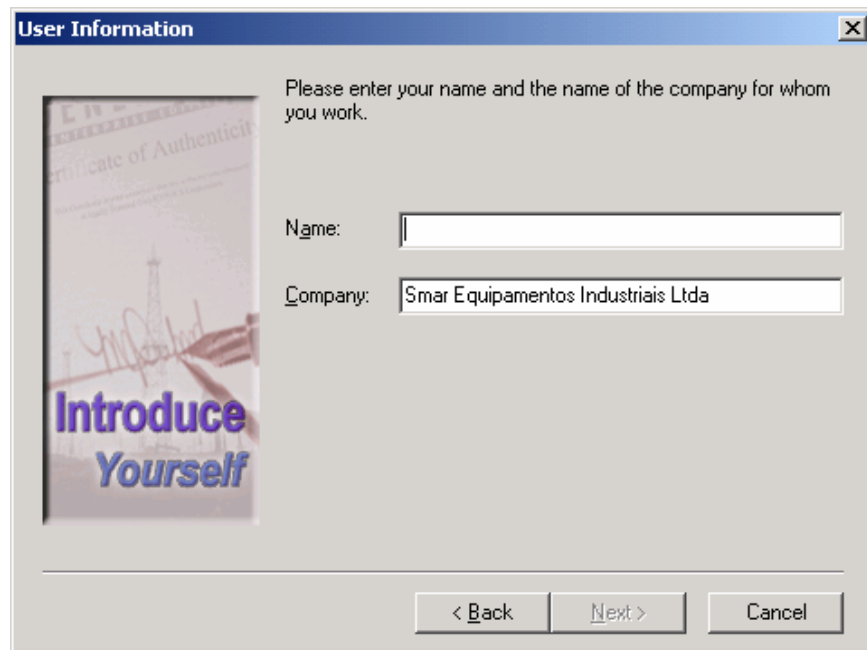

Figure 3.5. User Information Dialog Box
9. The **User Information** dialog box appears, as shown in **Figure 3.5**. Type in your name and your company's name, and then click **Next**.